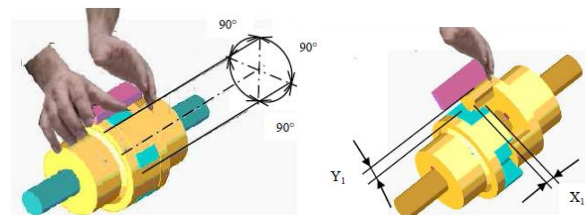
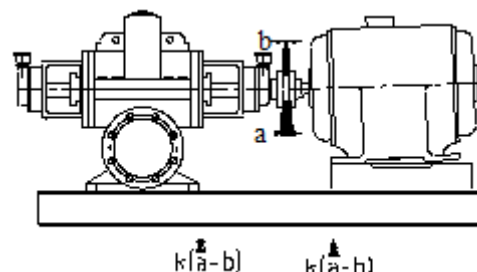

Figure 5: The Control of the Coupling Alignment in Horizontal and Vertical Planes
Figure 7: Angular Misalignment in Vertical Plane and Its Correction
1. Parallel Axis Misalignment (Figure 5-Figure 7)